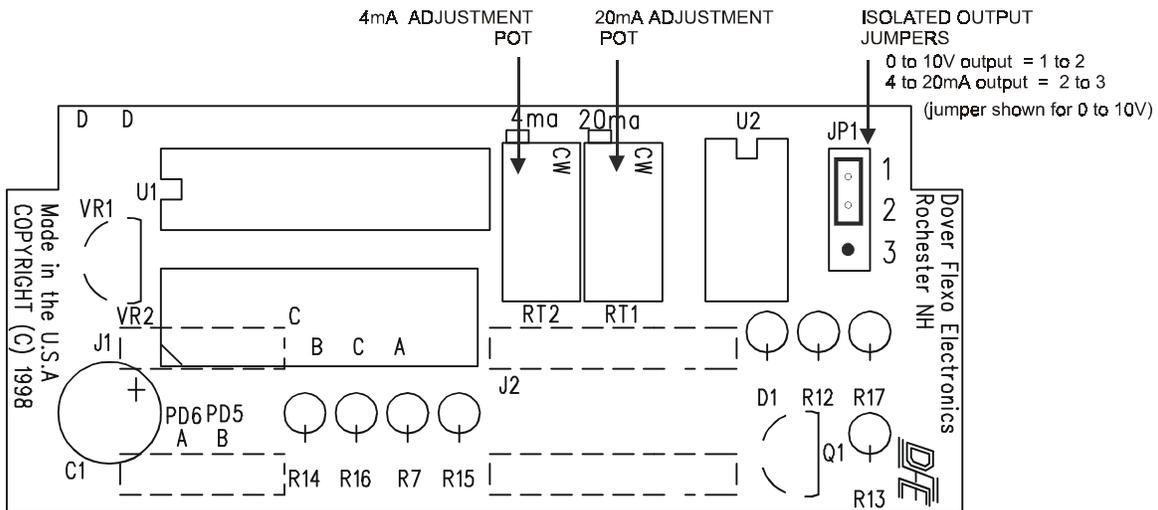

Figure 21 - ISOLATED OUTPUT JUMPERS and ADJUSTMENTS
5.5 ISOLATED 0-10V or 4-20mA OUTPUT (I10 or 420) See Fig 21